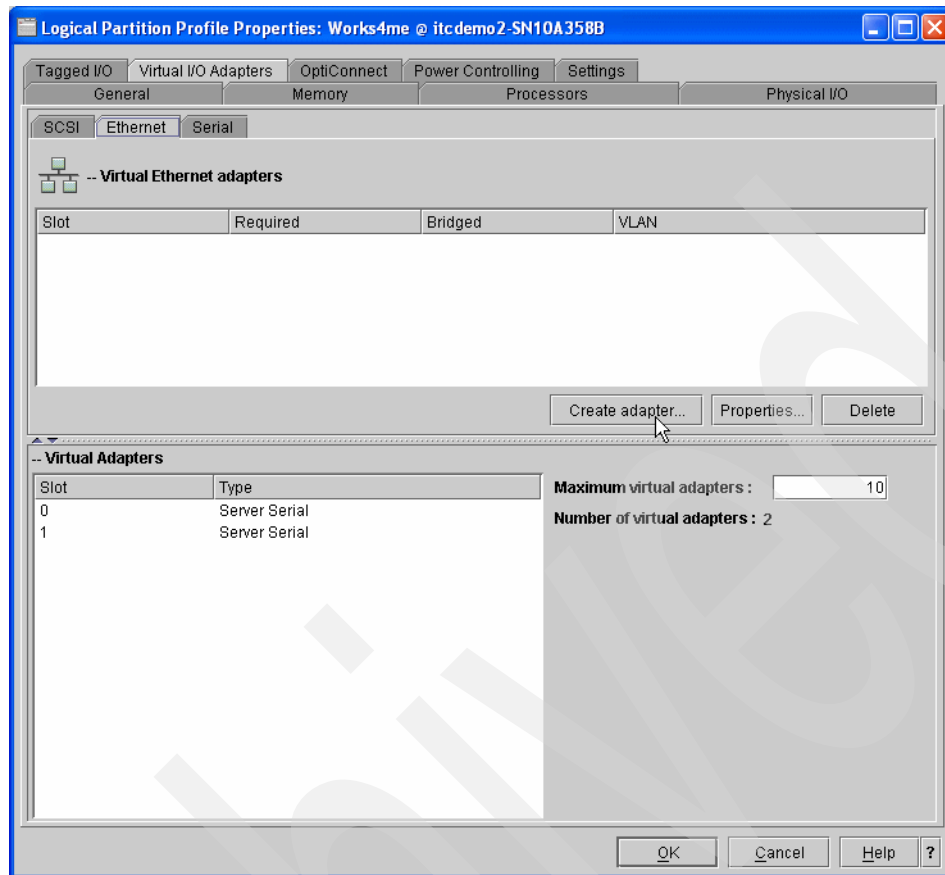

Figure 8-7 Properties window for a partition
2. Right-click the partition profile and select **Properties**. The window in Figure 8-7 on page 317 appears.